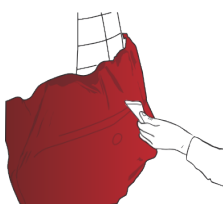

Figure 13
- › Apply the film over the entire surface with the help of a plastic squeegee covered with a felt sheet, and carefully wipe over the convex area (FIG. 13) to eliminate any tensions.